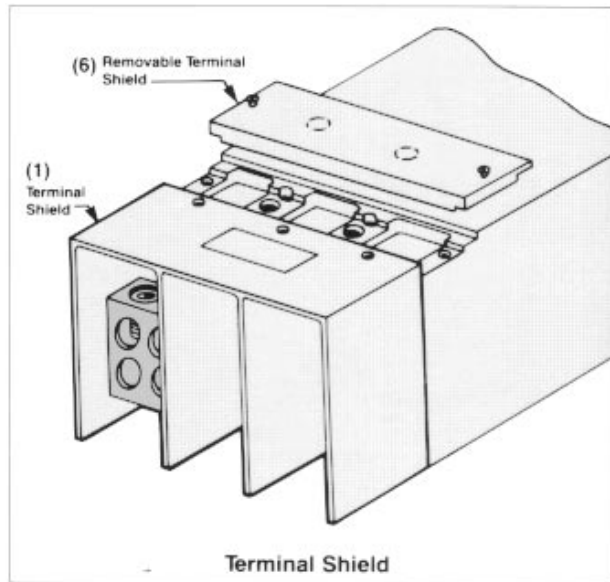

Figure 2
- B. Remove terminal shield (1) (Figure 2) (two #6-32 screws.)
- F. Mount removable terminal shield (6) (Figure 2) to end of circuit breaker. Shield should be flush with end of circuit breaker.